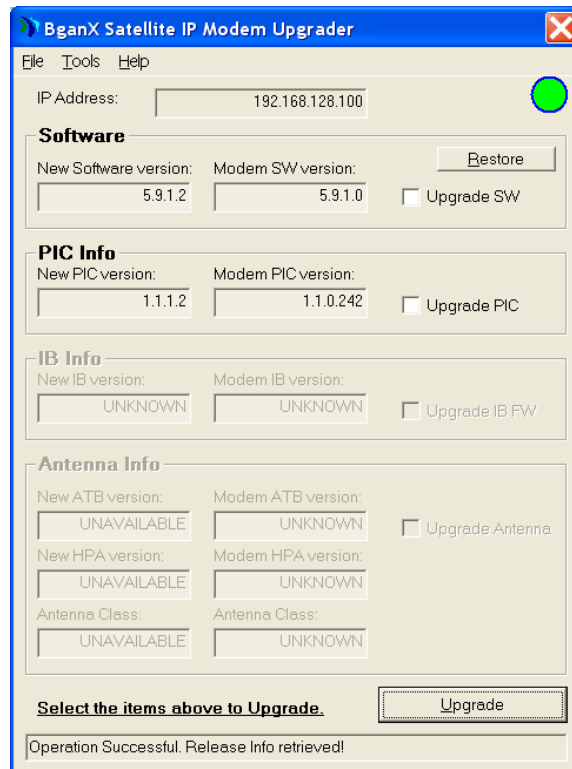

Figure 2: Local Firmware Upgrade Application
3. Start up the Hughes application and select the firmware upgrade and/or the PIC upgrade (see Figure 2 below for the PC upgrader example). Other configuration options should be ignored